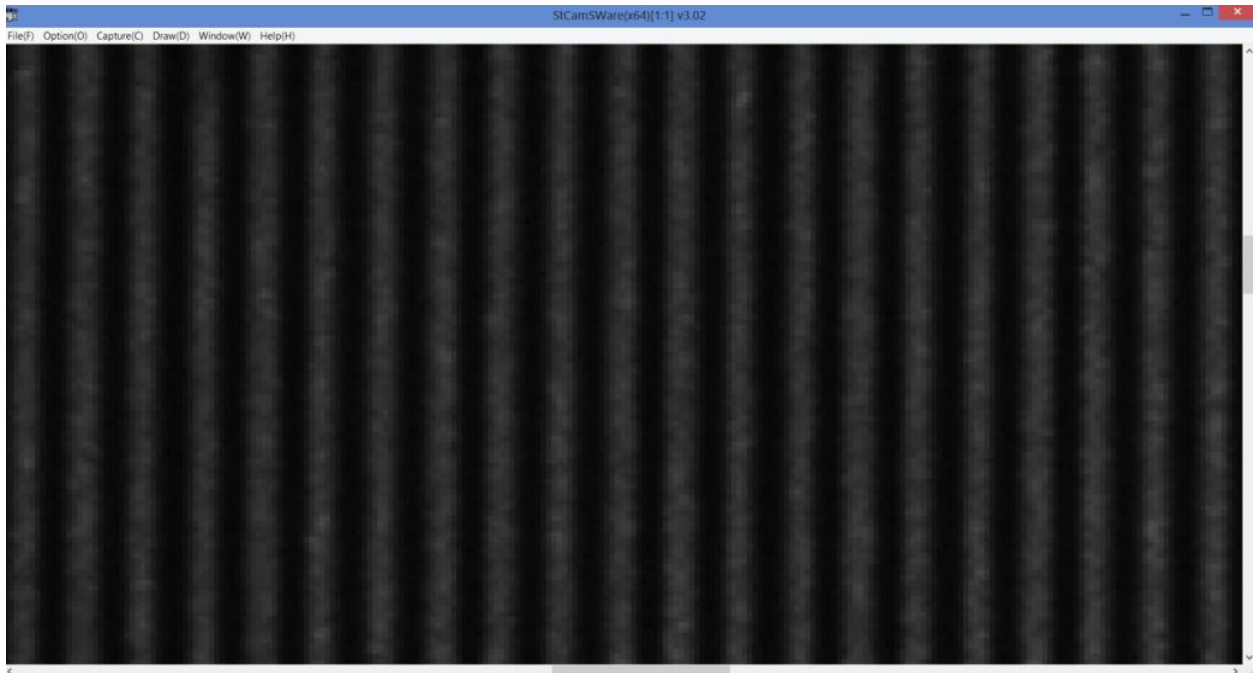

Figure 51 Image A
50. Verify the Fringe pattern image sharpness are approximately similar to Image A (Figure 51)
- t. If Image B is obtained during the verification, please re-adjust the “Focus adjustment” of projector by refer to “Size 8” at Stcamsware GUI until Image A (Figure 51) is obtained. Once completed, please re-verify the sharpness image at “Size 1” at Stcamsware GUI as Figure 49.